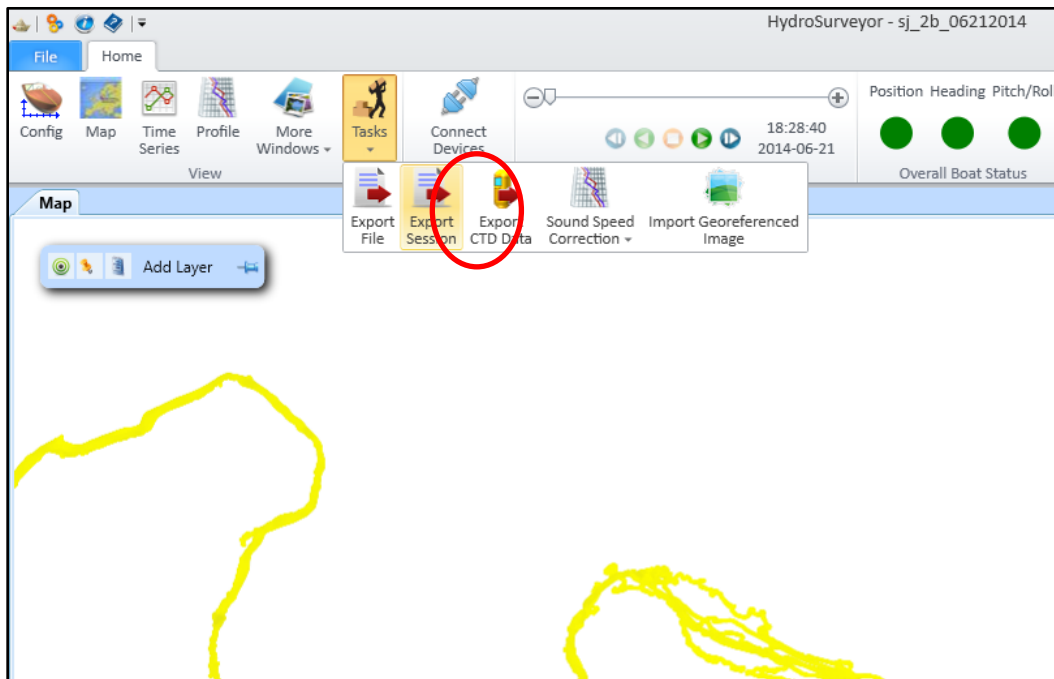
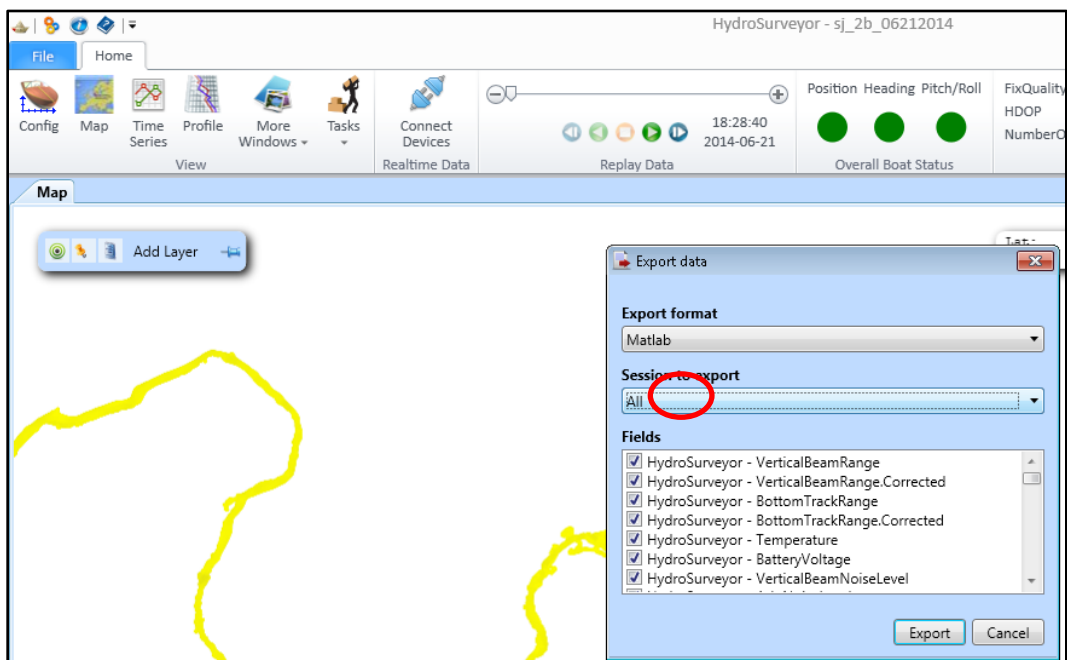

Figure 12.—In the HydroSurveyor software, export session files by selecting “Export Session” under the “Tasks” drop-down menu.
Figure 13.—In the HydroSurveyor software, select “All” sessions to export in the “Export data” dialogue box.
3. Export the session files in Matlab (.mat) format by selecting “Tasks” then “Export Session” (figure 12). In the “Export data” dialogue box, select “All” sessions from the “Session to export” drop-down menu (figure 13).